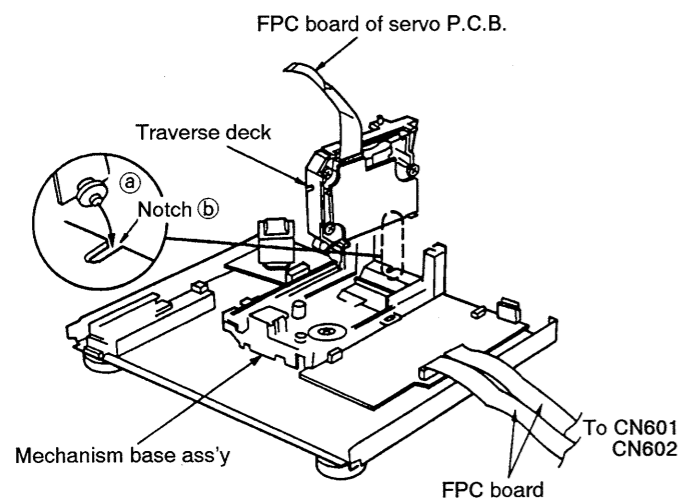

Fig. 7
1. Connect the FPC boards in the same manner as described in (A) above.
2. Insert part (a) of the traverse deck into notch (b) of the mechanism base ass'y as shown in Fig. 7.